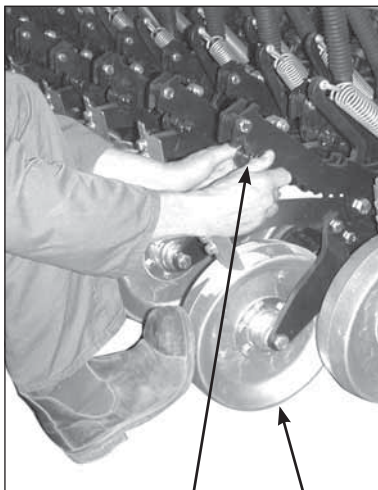

fig 8
Press wheels are used to control the seeding depth and compact the soil after sowing to give good seed/soil contact. To adjust the press wheel setting press down the press wheel (1) and reposition the jaw lock pin (2) in the desired notch. Refer fig 8.